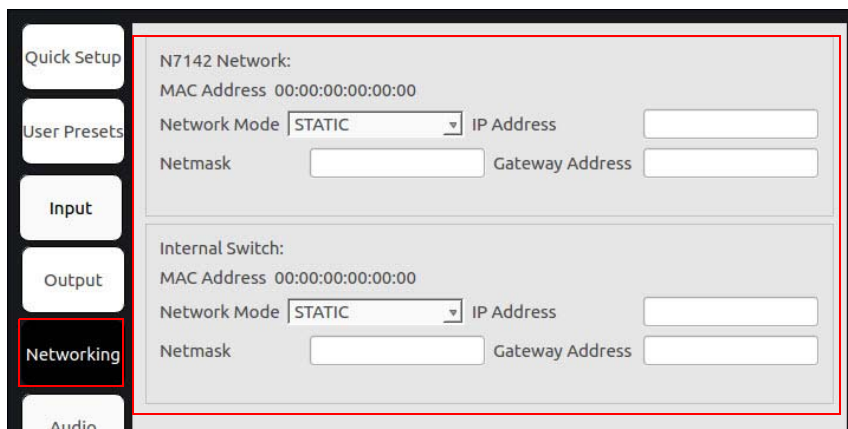

FIG. 4 Configure Network Settings
3. Navigate to the **Networking** page (see Figure 4). For both the **N7142** and the **Internal Switch**, select **AUTOIP**, **DHCP**, or **STATIC** from the **Network Mode** drop-down menu and then configure the other network settings as appropriate.